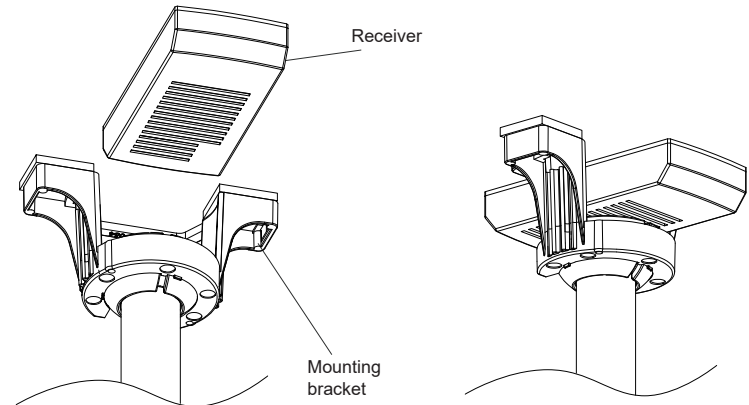

Fig. 11
Step 1. Insert Receiver into Hanger Bracket with the flat side of the Receiver facing the ceiling. **(Fig. 11)**